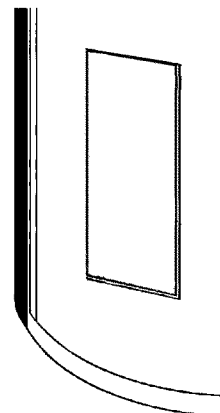

FIGURE 21.
17. Fold down the insulation so that it covers the thermostat and element, see Figure 21.